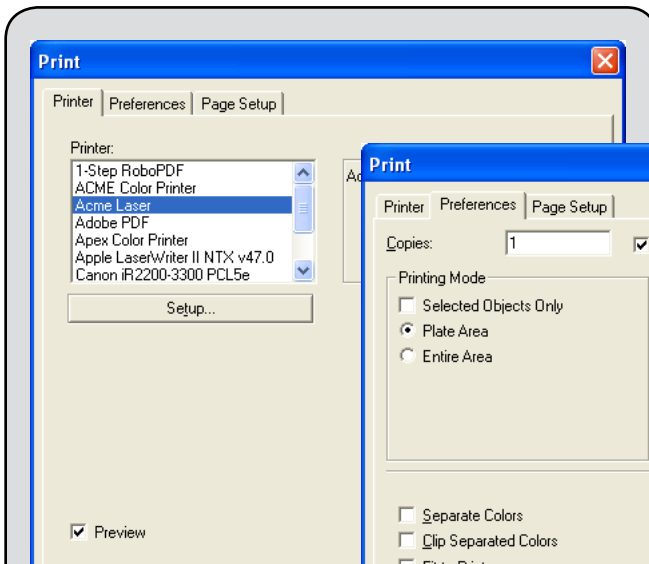

Fig. 19 - The **Printer** tab is used to select the laser engraver and adjust its output properties.
3. Tick the **Preview** checkbox (Fig. 19).